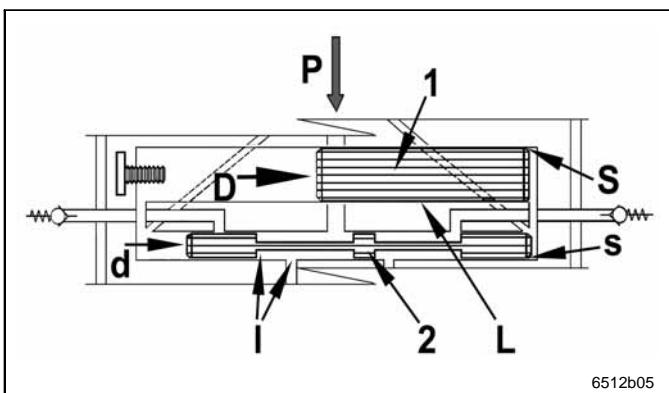

Fig. 10 Metering and control piston assy
- The progressive function sequence results from the interaction (see Fig. 12-18, as of page 11) of each metering and control piston assy (see Fig. 10) whereby the metering piston has priority over the control piston.